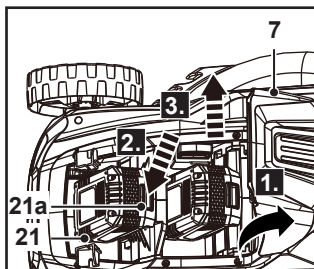

Fig. 8
1. Hold the groove (7a) and open the battery cover (7) (Fig. 8, step 1).
2. Press down the release buttons (21a) to unlock the latches of battery packs (21) (Fig. 8, step 2).
3. Slide out the battery packs (21) from the battery compartment (Fig. 8, step 3).
4. Close the battery cover (7).